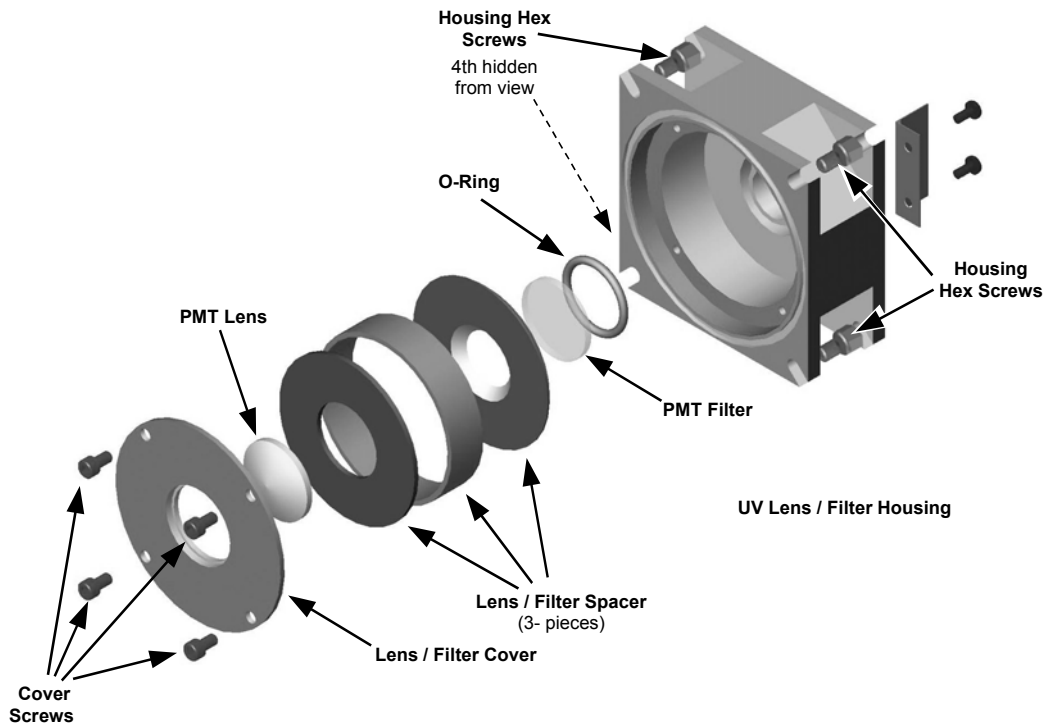

Figure 11-12: PMT UV Filter Housing Disassembled
- Reassemble the lens/filter housing (see Figure 11-12).